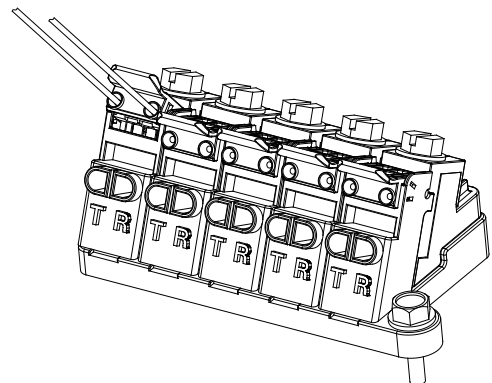

Figure 2
3. Lift rocker to full upright position, insert wires, confirm wires are fully inserted (Figure 2).